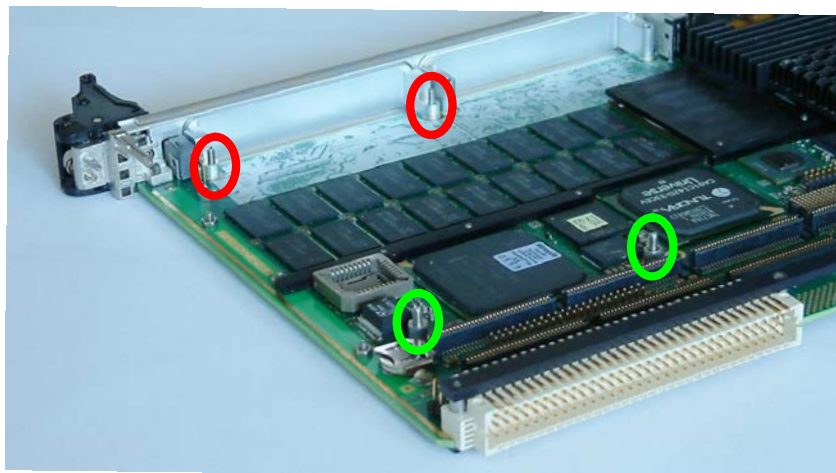

Figure 17: Preparing the EIDE Disk Installation
Use two M2.5x10 Torx screws to fix it to the board (refer to areas highlighted in red in Figure 17). Do not over tighten the screws.
5. Fix the two standoffs M2.5x4 to the board using two M2.5x10 Torx screws (refer to areas highlighted in green in Figure 17).